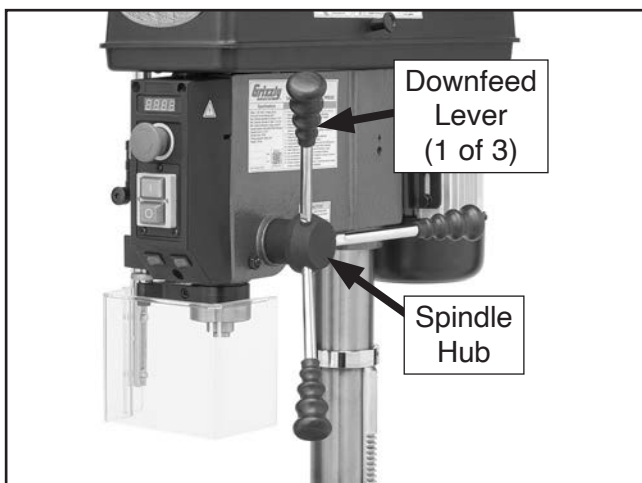

Figure 26. Downfeed handles installed (T33959 shown).
14. Thread downfeed handles into spindle hub (see **Figure 26**).